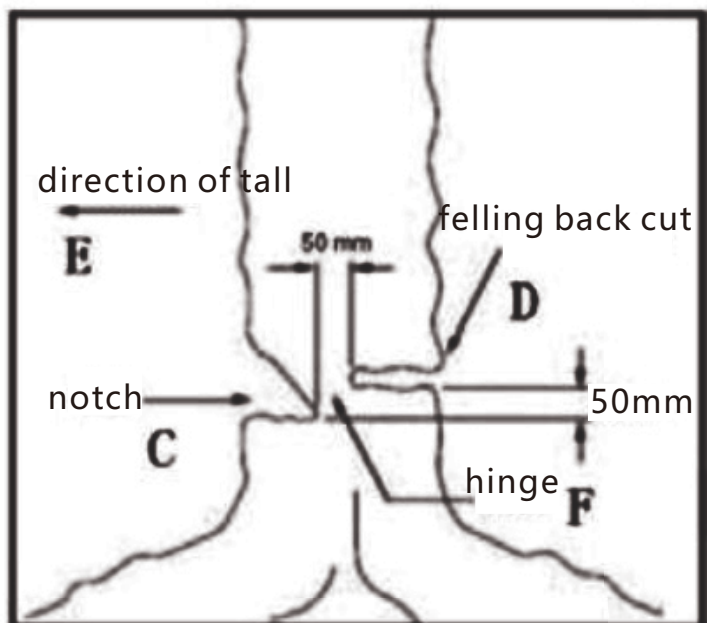

Fig.2B
**WARNING:** Never walk in front of a tree that has been notched. Make the felling cut (D) from the other side of the tree and 3-5cm above the edge of the notch (C) (Fig. 2B)